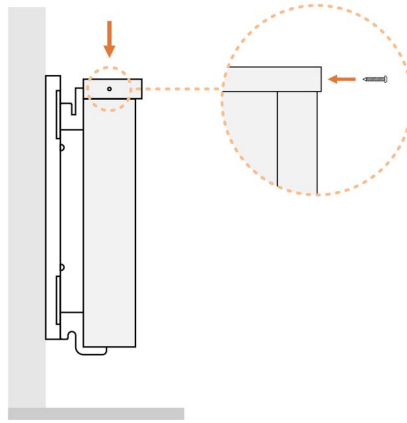

Figure 9 | Fitting cover locking
10. Ensure the radiator cover (**Figure 9**) is removed.